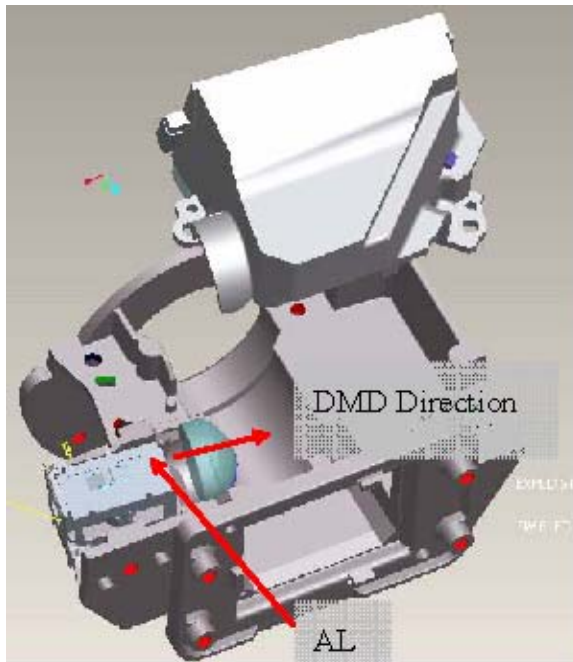

Figure 6-1
6.1 Placed “AL” on the HSG DMD .The “raised surface” of “AL” shall toward “DMD direction” (Fig 6-1)